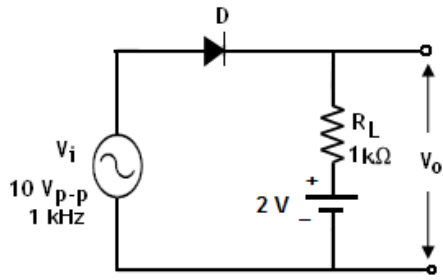

Figure 5: Biased Series Negative Clipper
1. Connect the circuit as shown in Figure 5.